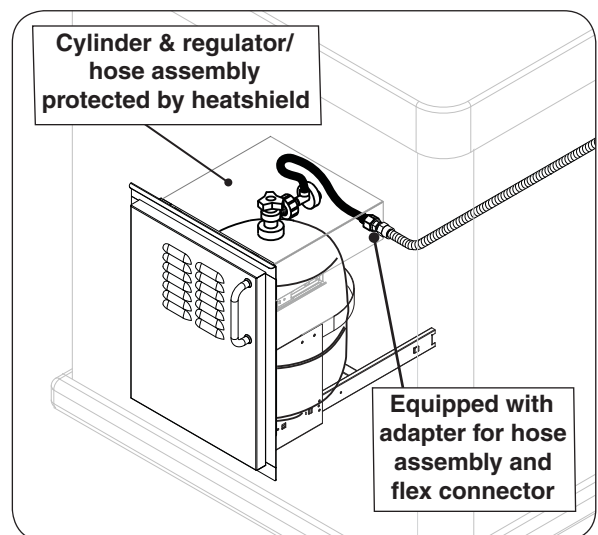

Fig. 12-3 Optional RHP door w/tank tray
- **RHP offers a propane cylinder door with tank tray to meet the cylinder install requirements. See Fig. 12-3.**